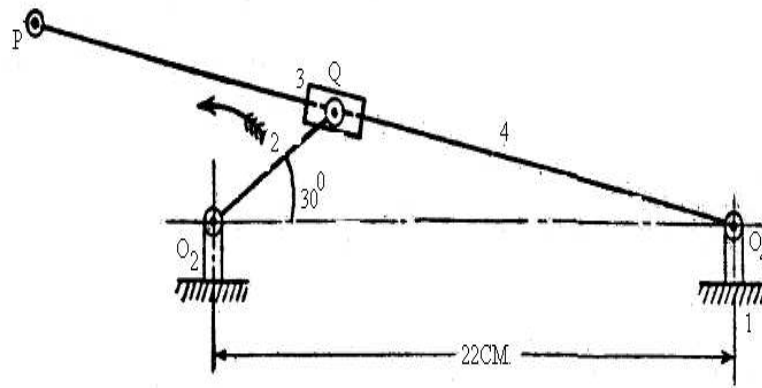

Figure 8:
8. Arrangement of a slider crank mechanism is shown in figure 8. For angular velocity of 300rpm, the link O_2Q in counter clockwise direction, determine the angular velocity of link 4. Velocity & acceleration of point P. The main dimensions of the linkages are $O_2Q=6\text{cms}$, $O_4P=30\text{cm}$.